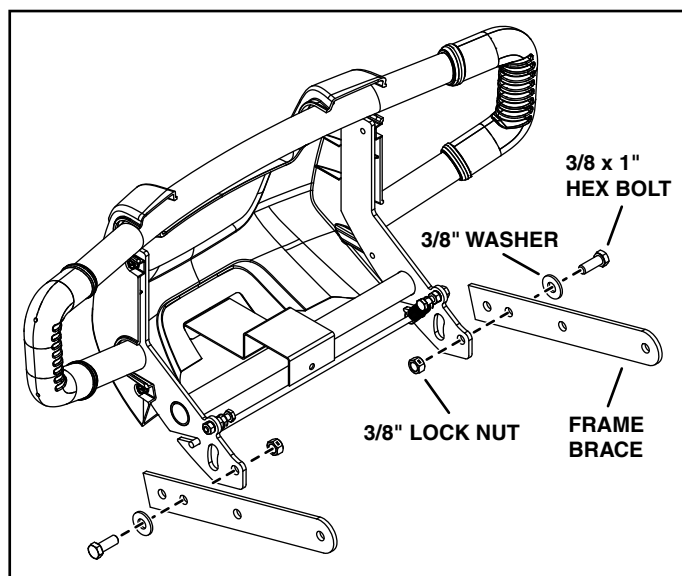

FIGURE 3
- Push the front of the latch down past plastic shroud of bumper. Latch will be under the shroud and should appear as shown in figure 3 when assembled correctly.
STEP 3: (SEE FIGURE 3)